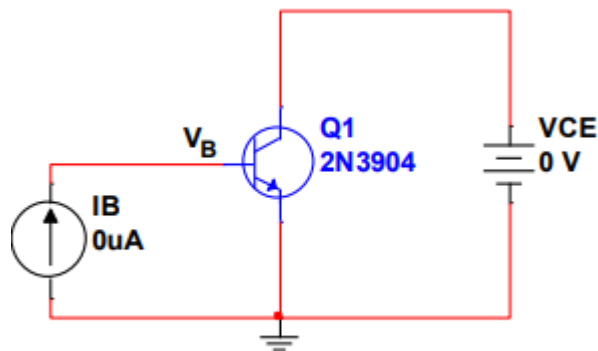

Figure P.1 – BJT Test Circuit
1. **Build** and **simulate** the circuit in **Figure P.1** using Multisim.
In the prelab, you generated an I-V curve for the 2N3904 transistor using the schematic in **Figure P.1**. You were able to generate base current I_B in the range of $0\mu A$ to $50\mu A$. In the lab, the power supply can behave as a current source, but it **cannot** produce a current as small as $50\mu A$. To create the same family of I-V curves in the lab, we must use the circuit in **Figure 2.1**. The voltage source combined with the $100k\Omega$ resistor at the base will behave as the $0\mu A$ to $50\mu A$ current source from **Figure P.1**.